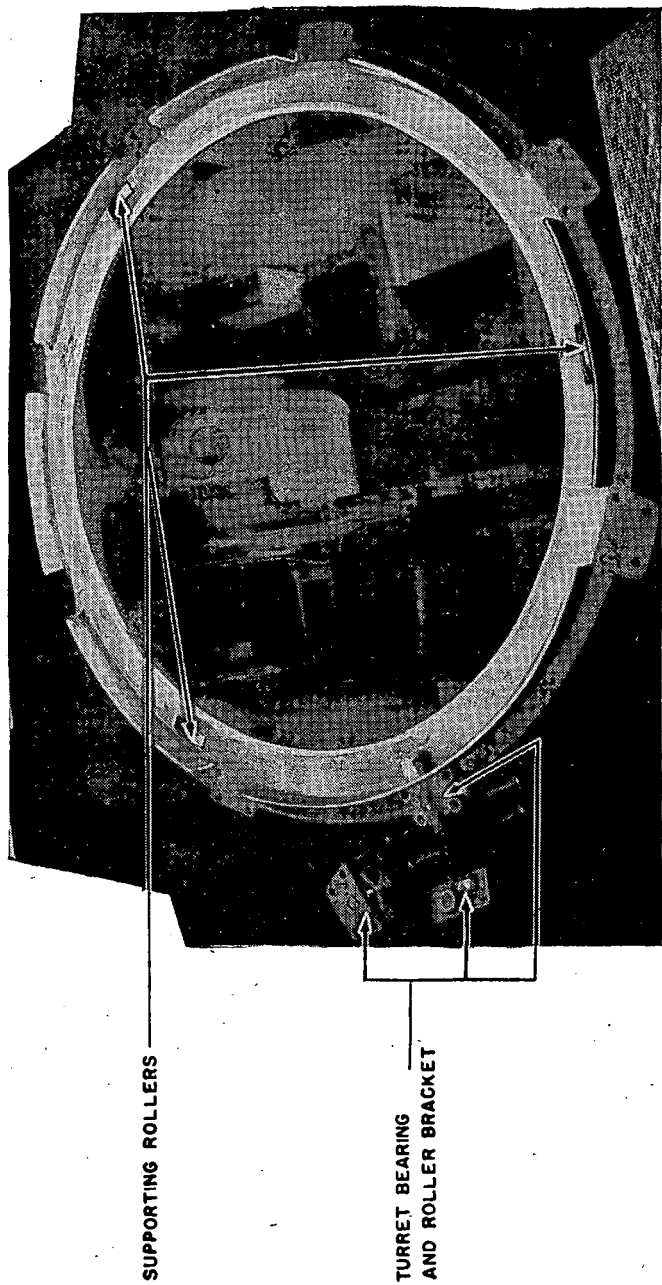

FIGURE 89.—Turret ring and rollers.
ets which are bolted to the hull at irregularly spaced intervals around the circumference of the ring gear track. Each bracket carries one bearing and roller (figs. 89 and 90).
(6) *Turret ball bearing and roller brackets* (fig. 89).—The brackets are attached to the hull with $\frac{1}{2}$ -inch hexagon-head bolts and nuts. Replace this assembly if the original is defective.